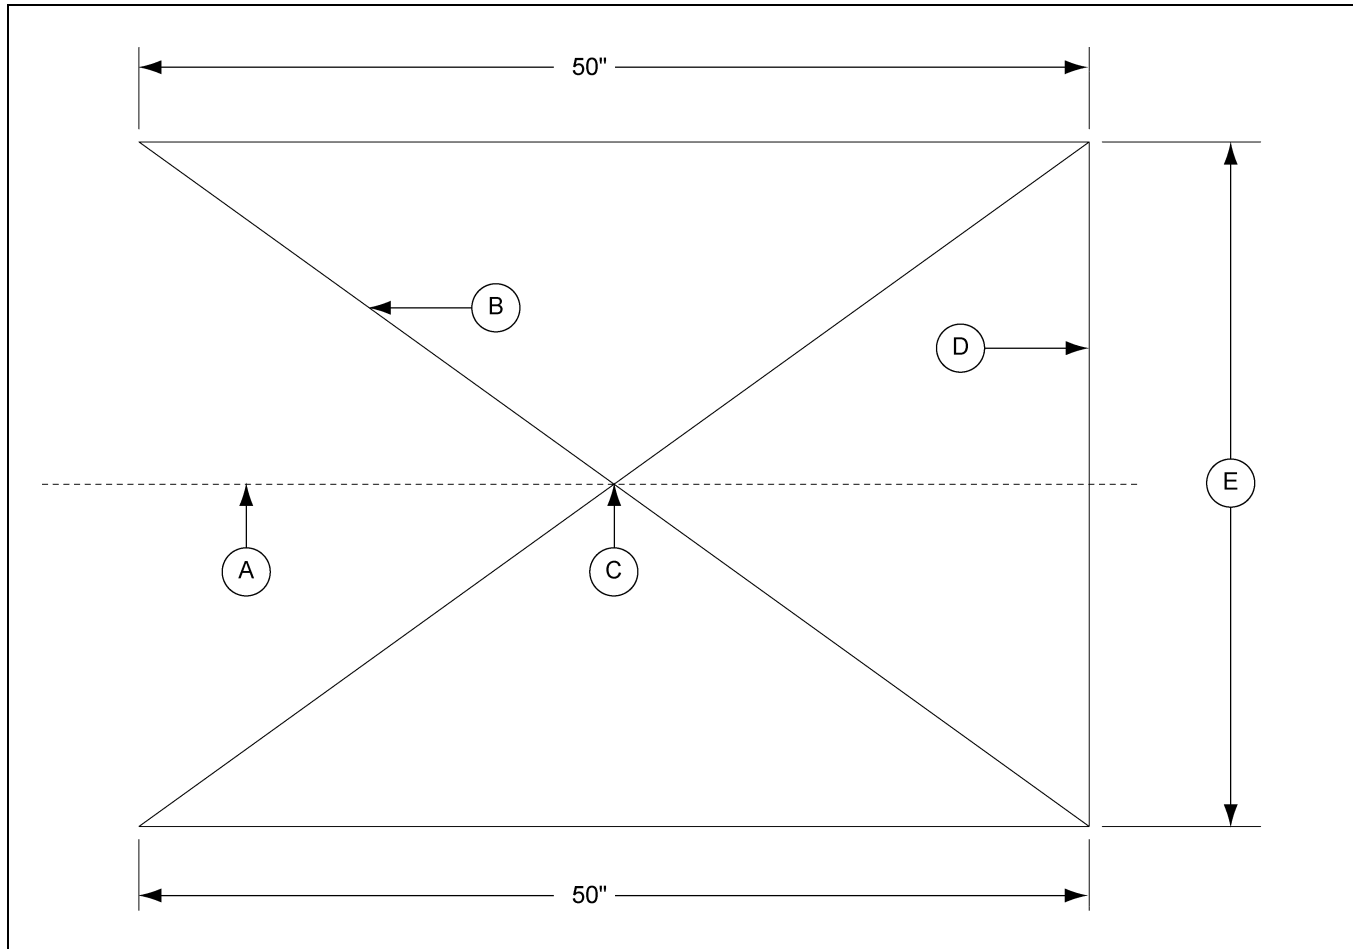

Figure 6C
1. To check for the accuracy of the cut made, measure lengthwise 50" from each edge of the belt. Using a straight edge, draw a line diagonally across the belt. This should be done from the 50" point to the end corner on the opposite side of the belt. Do the same procedure in reverse to form an "X". The intersection point of the two (2) lines of the "X" should be in line with the centerline of the belt. (See Figure 6C.)